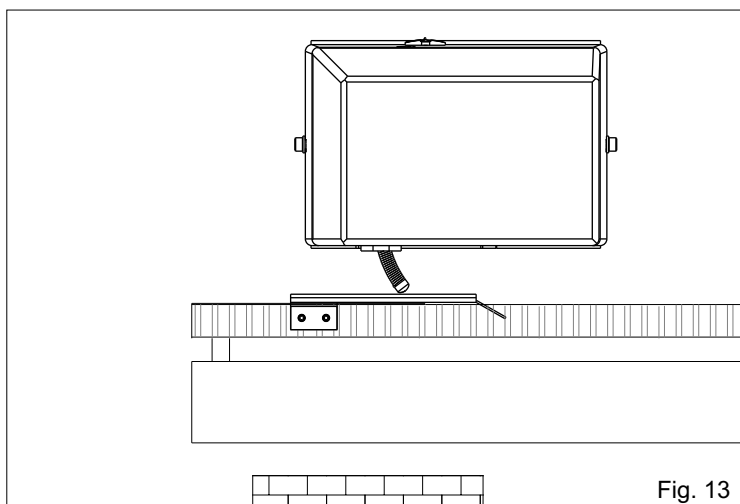
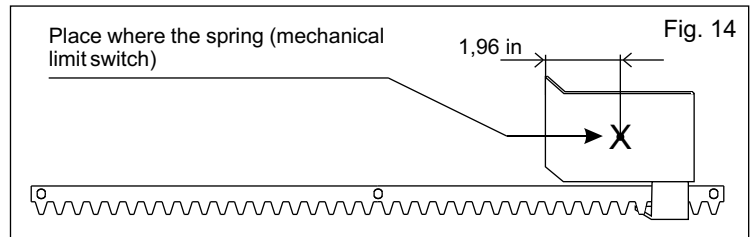
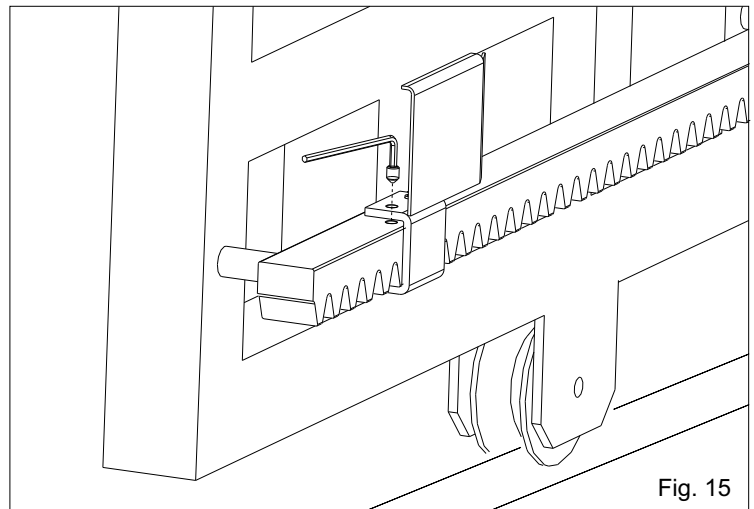

Fig. 13
Fig. 14
Fig. 15
- Place the limit switch plate on the gear rack to have the limit switch (spring in case of mechanical limit switch (Fig. 13)) in correspondence with the X point which is 1,96 in from the folded side of the plate (Fig. 14) and fix it with the supplied screws (Fig. 15).
- Place the limit switch plate on the gear rack to have the limit switch in correspondence with the X point which is 1,96 in from the folded side of the plate (Fig. 14) and fix it with the supplied screws (Fig. 15).